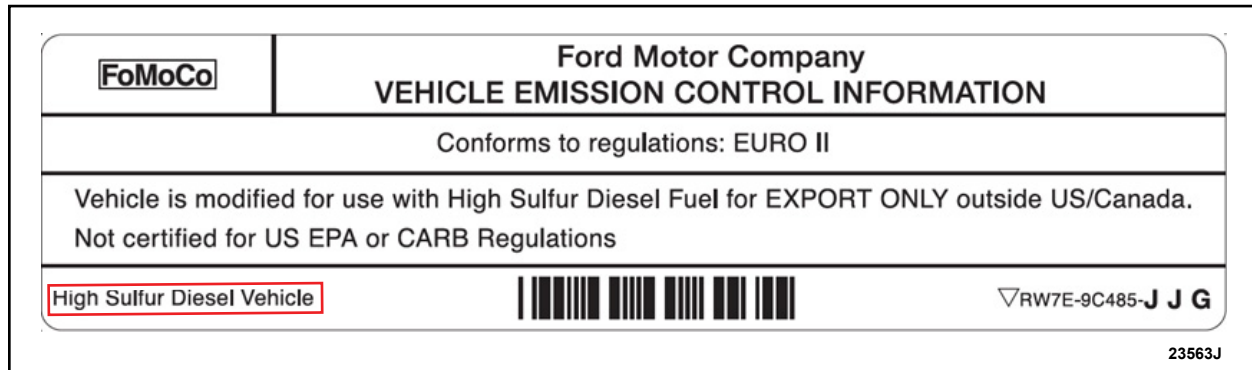
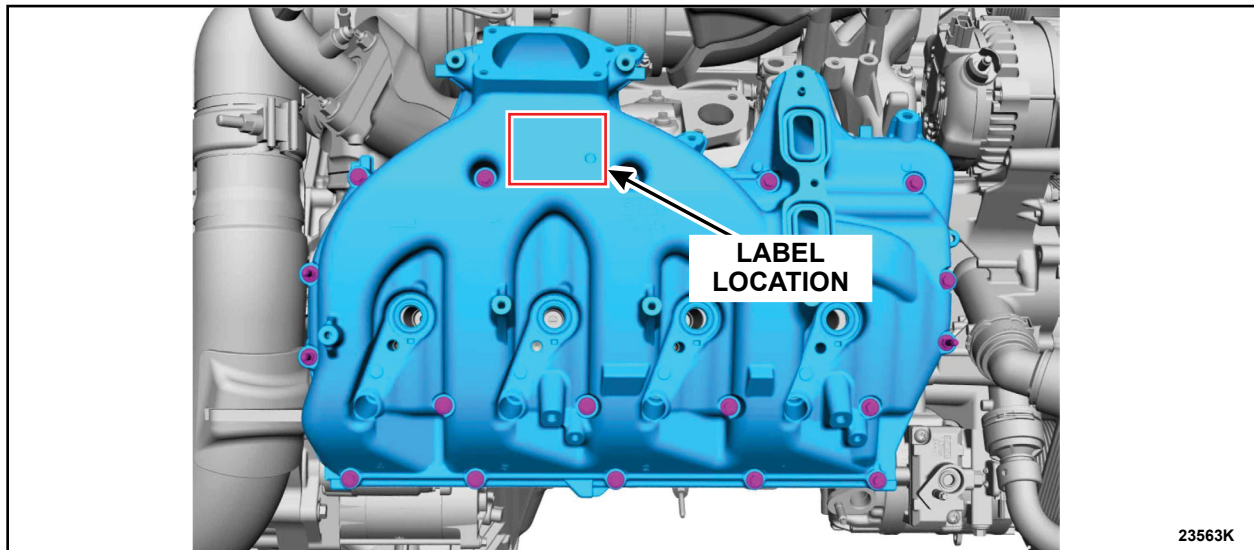

FIGURE 2
FIGURE 3
1. Confirm the two (2) appropriate Emission Control Information labels for 24L04 have been received by checking for High Sulfur Diesel text on the lower left corner of the labels. See Figure 2.
See Figure 2.
10. Place the second *new* Emission Control Information label (see Figure 2) on the valve cover and directly over the original label, if one is present. See Figure 3.